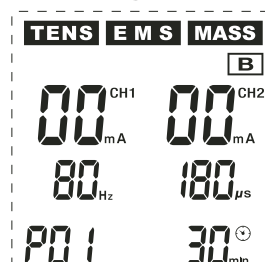

Fig. 13
- ⑬ **(B)**: Special programmes for the **back** (see Fig. 13)